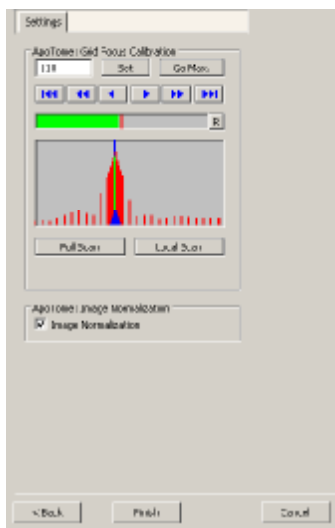

Figure 8
4. In step 3 of the Grid Focus Calibration, the grid contrast is being maximised. This step can be carried out manually however better results are usually obtained using the automated scans to identify the maximal contrast intensities as seen in the graph. Click on the *Full Scan* button and allow the scan to finish and then use the *Local Scan* button (see Figure 8 and 9). Click on the *Finish* button.